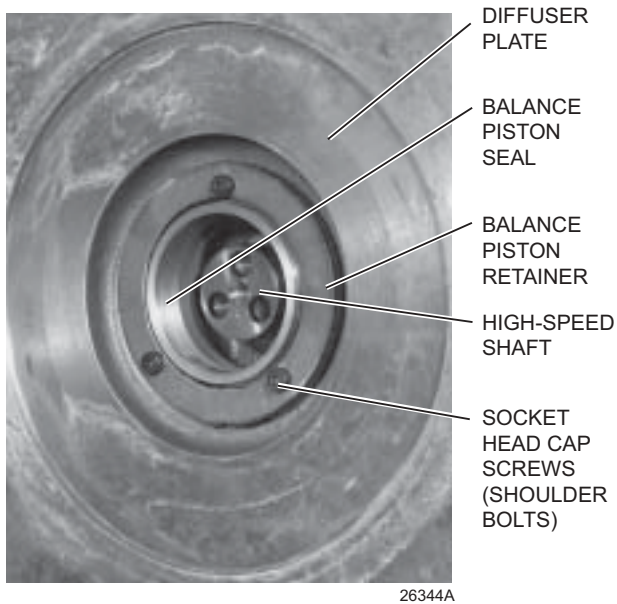

FIG. 24 – BALANCE PISTON SEAL
1. Remove the (3) socket head cap screws (shoulder bolts) that fasten the balance piston retainer and balance piston seal to the diffuser plate (see FIG. 24 and 25). Remove the balance piston retainer and balance piston seal.